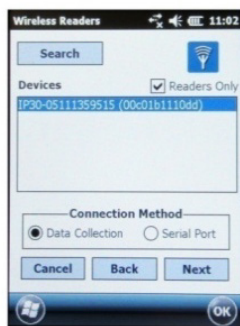

Figure 16. Devices list
10. Highlight and select the device from the list (Figure 16). Tap **Next**.